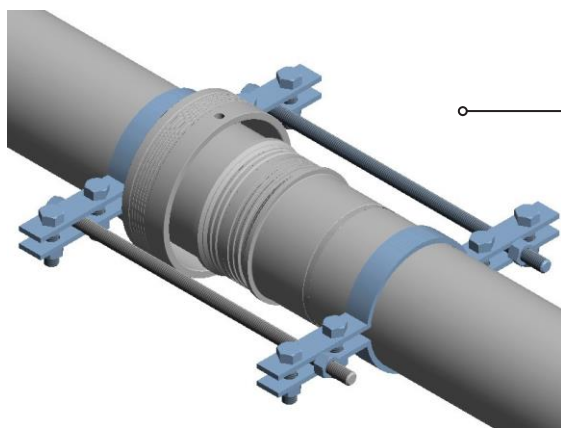

Figure 2. Assembly clamps can be made in the field with standard riser clamps and threaded rod.
- With the gasket in place, draw the hub ends together. If the welded pipes are not aligned properly, a clamp will be required to draw the two halves of the DUR O LOK® Couplings together. If desired, a clamp can be constructed in your shop using standard riser clamps, as depicted in Figure 2. Couplings that are excessively out of alignment will require removal, repositioning, and re-welding. It is best to take care to align the piping and couplings prior to welding.